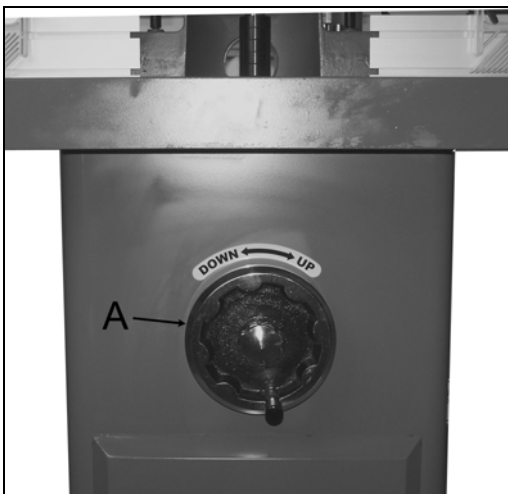

Figure 5
2. Raise the spindle shaft by turning the handwheel (A, Figure 5) until the quill assembly is at its maximum height.